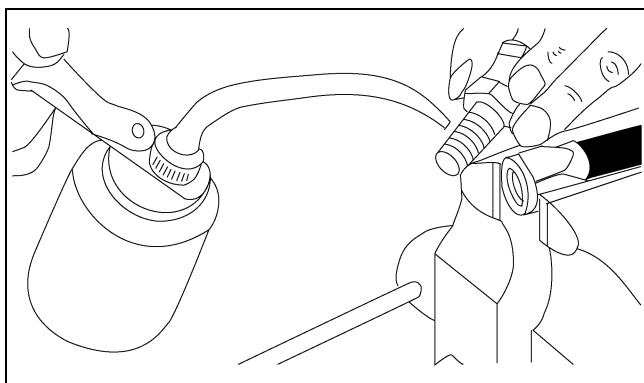

Figure 5E
- e. Lubricate nipple thread liberally. (See Figure 5E.)